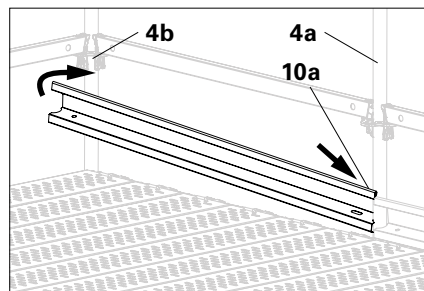

Fig. A2.16a
1. Place Toeboard UPY (**10**) with recess (**10a**) obliquely on the Standard UVR (**4a**). (Fig. A2.16a)